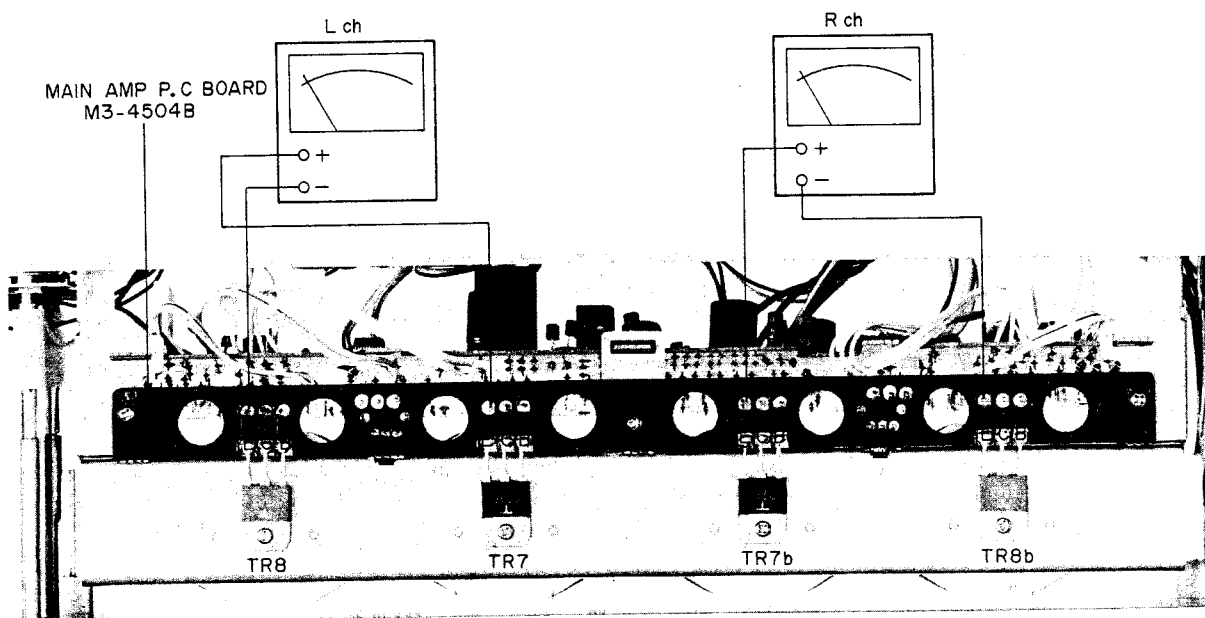

Fig. 21 Instrument Connection
1. IDLING CURRENT ADJUSTMENT (Refer to Figs. 21, 22)